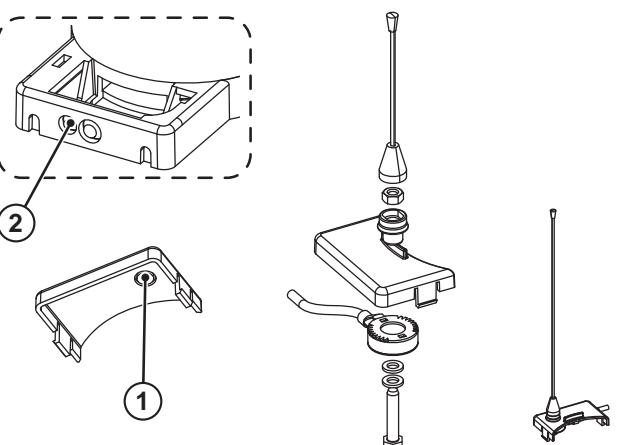

Fig. 12
1. Clear the pre-bored holes, Ø9 (Fig. 12 ref. ① ②).
2. Install the antenna and the provided accessories (Fig. 12).